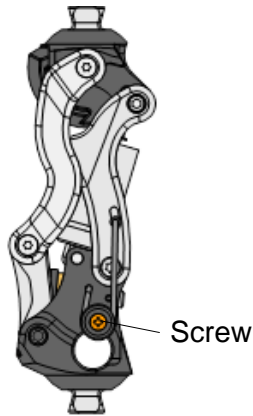

Fig. 11
1. Use a Phillips –head screwdriver to loosen the screw shown in Fig. 11.